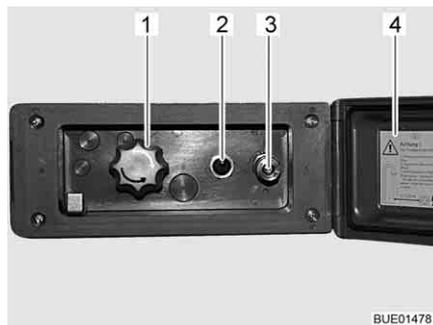

Fig. 141 External shower connection point
- Unlock and open the cover (Fig. 141,4).
- Attach hose of the external shower to the quick closure (Fig. 141,3).
- Switch on the water pump using the switch (Fig. 141,2).
- Adjust the water temperature with the rotary knob (Fig. 141,1) as desired.
- Switch off the water pump using the switch (Fig. 141,2).
- Close the cover (Fig. 141,4) and lock with key.
- Turn knob (Fig. 141,1) to the centre position.